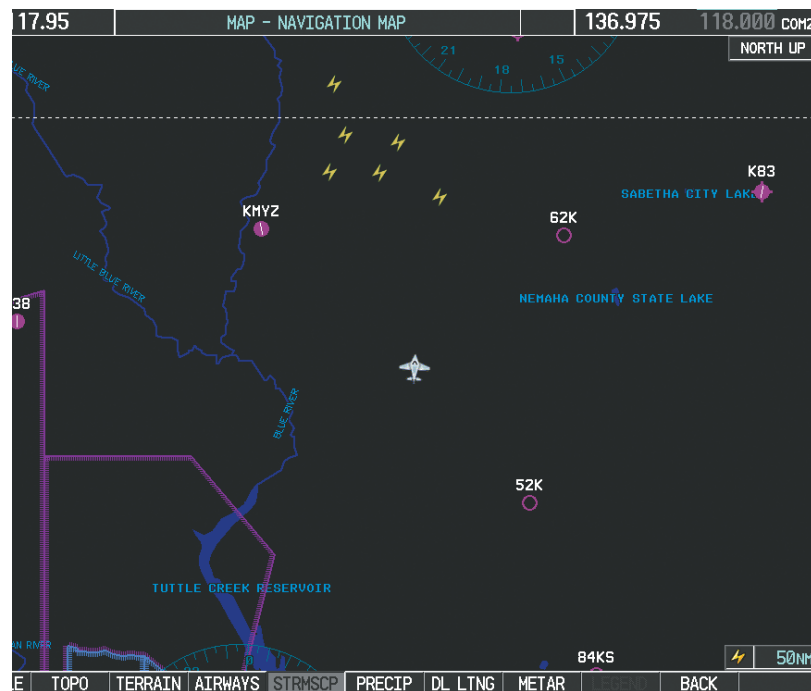

Figure 6-118 Navigation Map Page with Stormscope Lightning Data
- 7) Press the **FMS** Knob to return to the Navigation Map Page (Figure 6-118).
On the Navigation Map, cell mode identifies cells of lightning activity (Figure 6-118). Stormscope identifies clusters of electrical activity that indicate cells. Strike mode indicates the approximate location of lightning strikes.